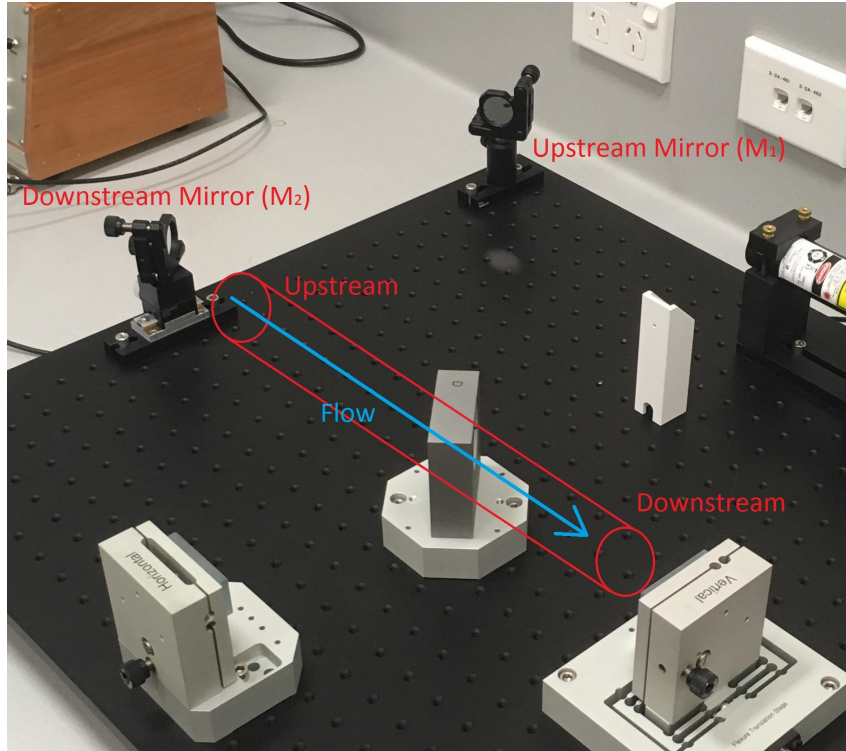

Figure 6: Upstream And Downstream Representation
-The upstream end of our mythical tube will be our location A and the downstream end will be location B, as per Figure 6 below.